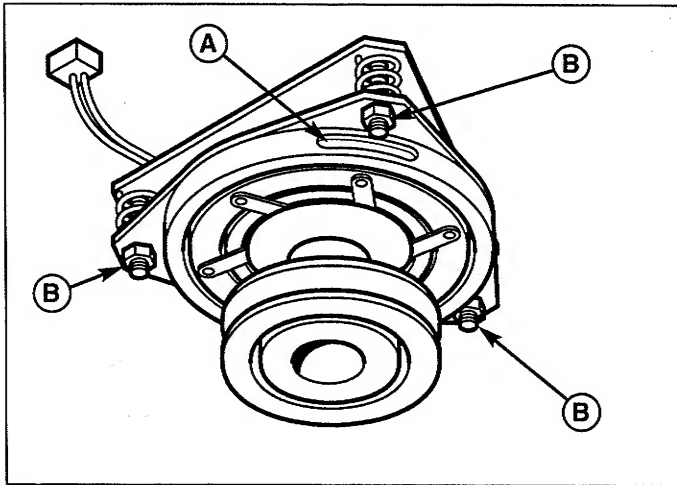

Figure 47. PTO Clutch Adjustment
2. See Figure 47. Note the position of the 3 adjustment windows (A) in the side of the brake plate and the nylock adjustment nuts (B).
4. Alternately tighten the adjustment nuts (B, Figure 47) until the rotor face and armature face just contacts the gauge.